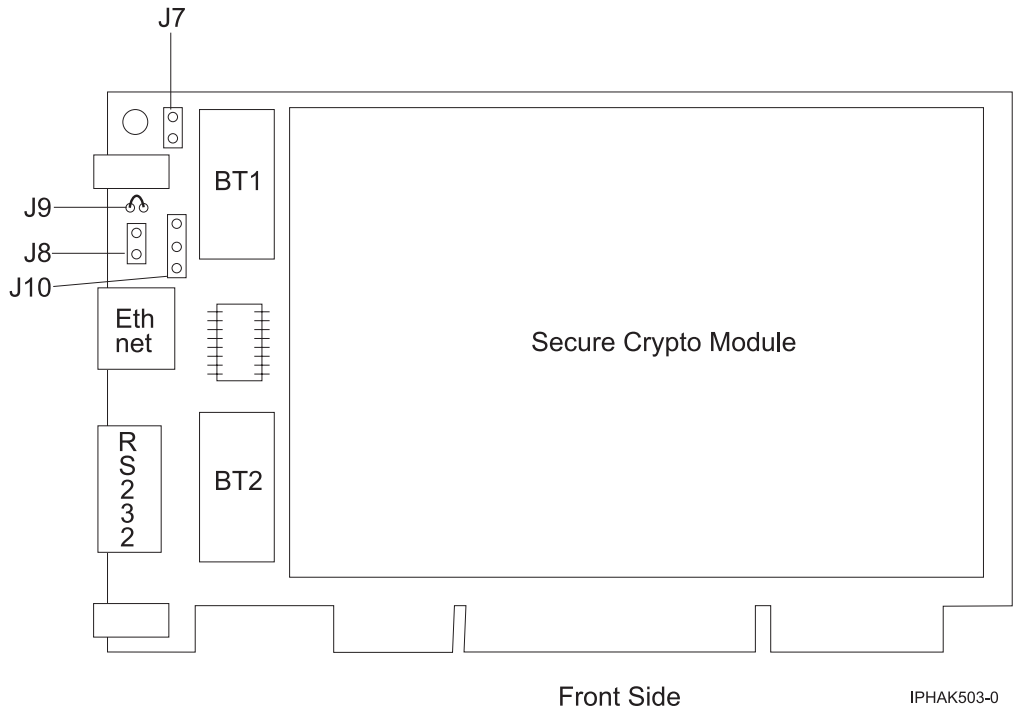

Figure 88. Front side of the adapter
6. Insert one of the new batteries into the battery tray provided with the kit. Align the + on the battery with the + on the battery tray (the end with the red wire). Connect the tray wires to the J10 connector located near the RS-232 serial port, as shown in Figure 88 on page 275. The connector is polarized to ensure a correct connection.